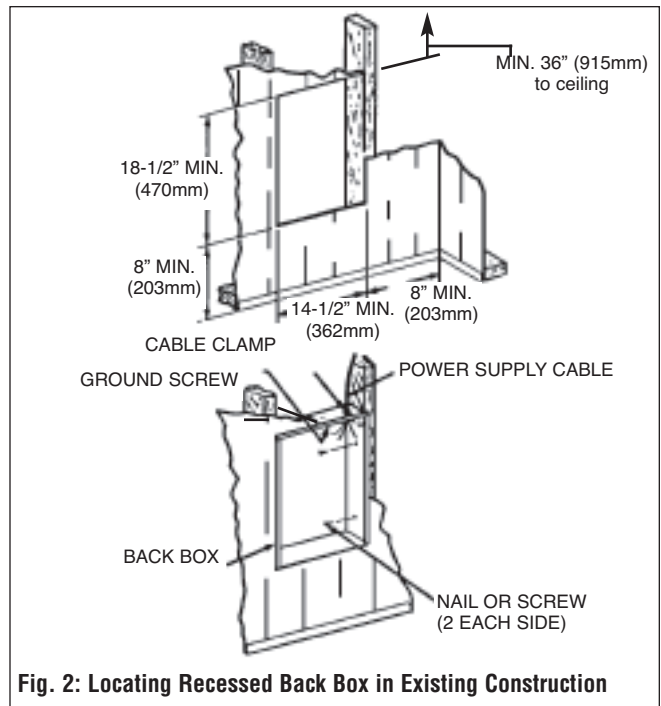

Fig. 2: Locating Recessed Back Box in Existing Construction
1. Provide a wall opening 14-1/2" (362mm) wide x 18-1/2" (470mm) high at the desired mounting height, but no closer than 8" (203mm) to any adjacent wall or floor and 36" (915mm) to ceiling. (See Figure 2.)